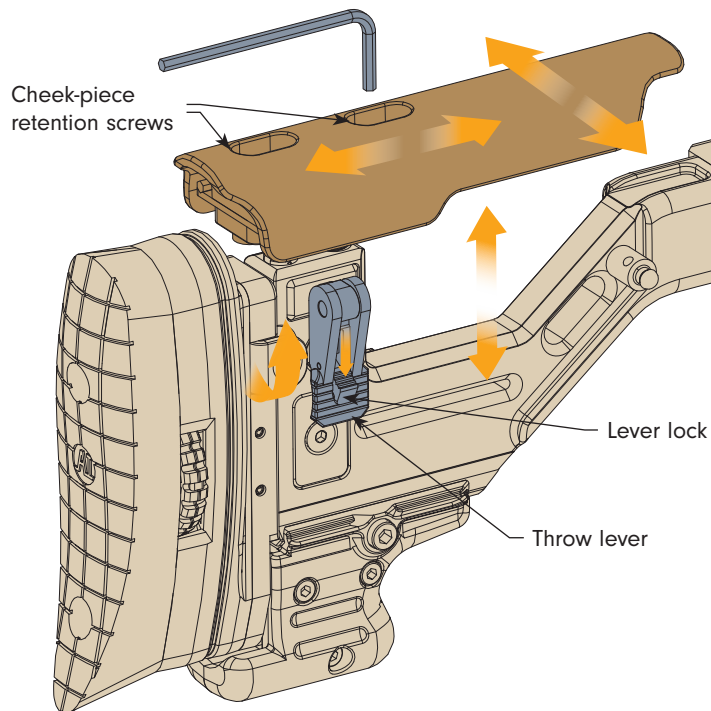

Fig 2-13
- Using the supplied 3 mm hex wrench (see 2.2 on page 11), loosen the two retention screws that are exposed on the top surface of the cheek-piece (see Fig 2-13).